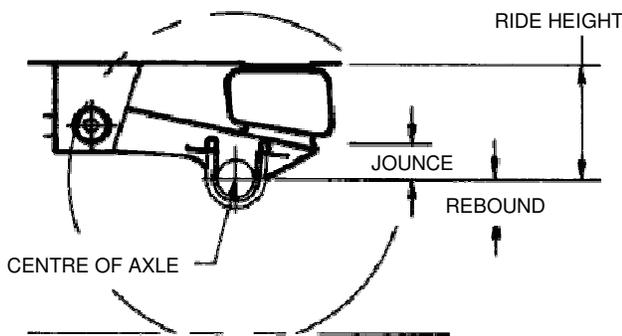

Figure: 6 Suspension Travel
**Jounce** = Maximum amount of upward axle movement allowed by the suspension (Figure 6).
**Rebound** = Maximum amount of downward axle travel allowed by the suspension (Figure 6).